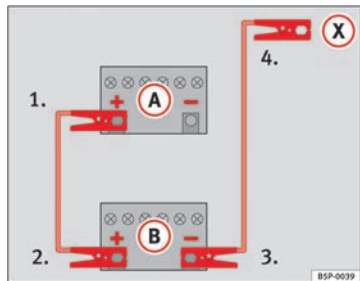
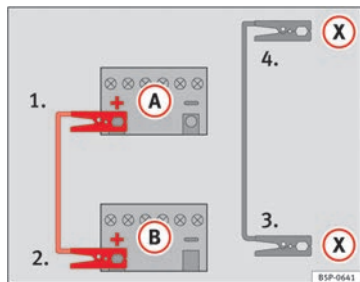

Fig. 126 Diagram of connections for vehicles without Start Stop system
Fig. 127 Diagram of connections for vehicles with Start Stop system
- Connect one end of the *red* jump lead to the positive (+) terminal of the vehicle with the flat battery (A) ⇒ Fig. 126.
- Connect the other end of the *red* jump lead to the positive terminal (+) in the vehicle providing assistance (B).
- Connect one end of the *black* jump lead to the negative terminal (-) of the vehicle providing assistance (B) ⇒ Fig. 126.
- Connect the other end of the *black* jump lead (X) to a solid metal component bolted to the engine block or to the engine block itself of the vehicle with the flat battery. However, connect it to a point as far as possible from the battery (A).
- Connect one end of the *red* jump lead to the positive (+) terminal of the vehicle with the flat battery (A) ⇒ Fig. 127.
- Connect one end of the *black* jump lead (X) to a suitable ground terminal, a solid piece of metal in the engine block, or to the engine block ⇒ Fig. 127.